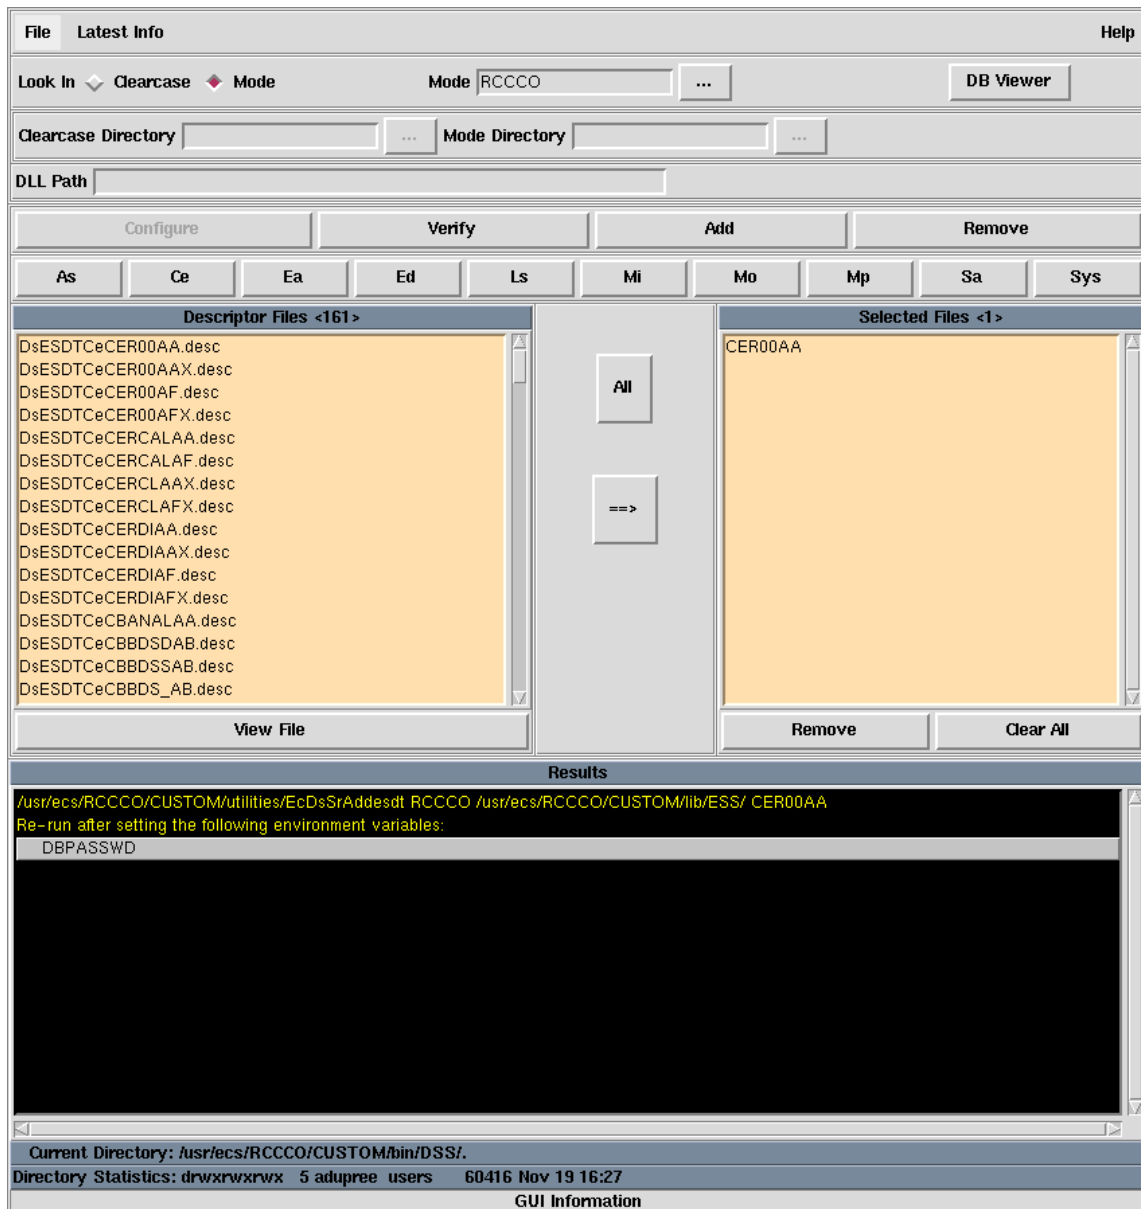

Figure 6.3.1-1. ESDT Manager GUI.
- The ESDT Manager GUI will be invoked as shown in Fig. 6.3.1-1.